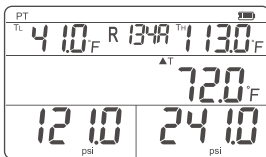

FIG.3 Diagram of Temperature Difference Sub Mode
3. Short press the **MODE** button to enter the temperature difference sub mode, The interface[FIG.3] displays the measured pressure, temperature and temperature difference values at the high and low pressure sides.